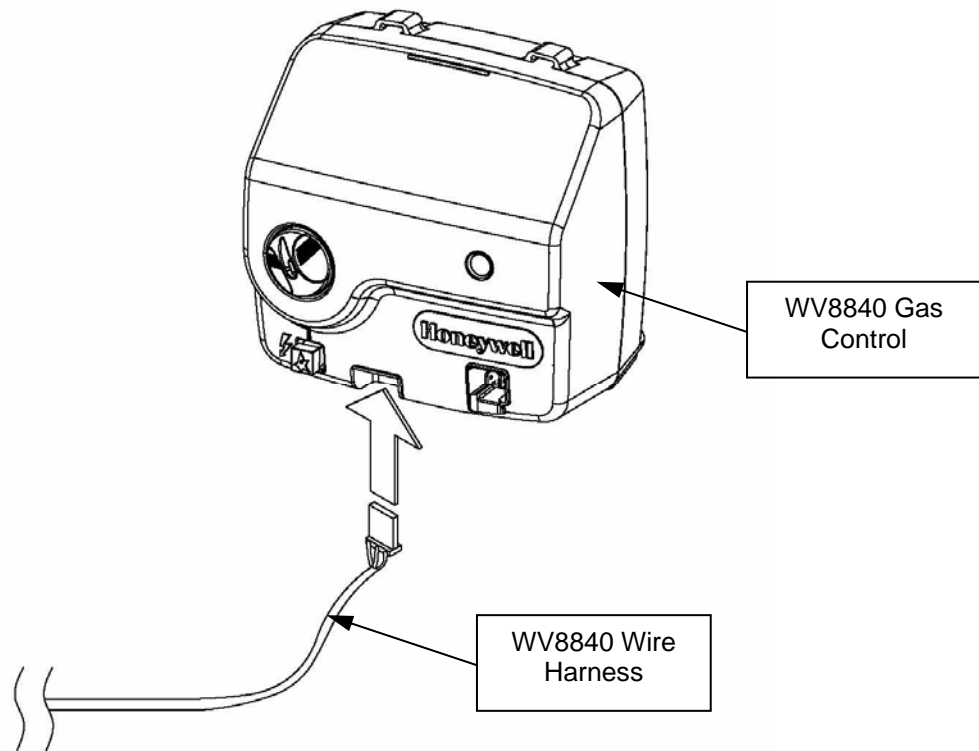

Figure 27
Step 27: Push the plastic connector on the WV8840 wire harness into the recessed area on the bottom side of the WV8840 gas control. This is shown in Figure 27.